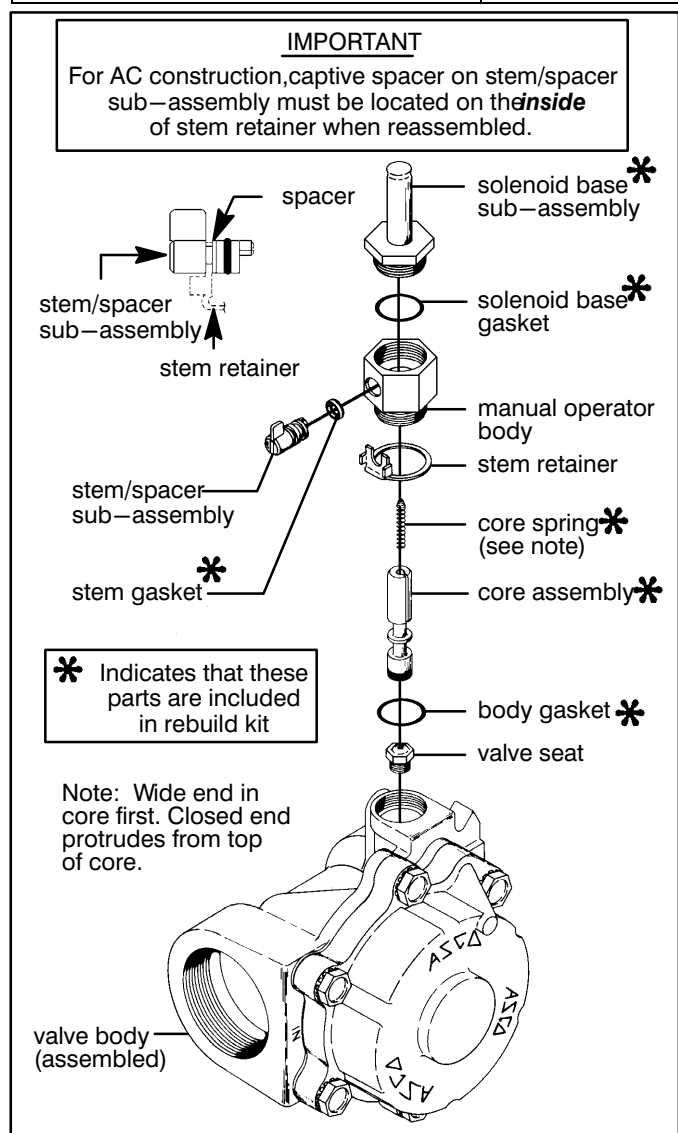

Figure 1. Manual Operator Assembly, AC Construction.
2. For AC construction refer to Figure 1 on page 3; DC construction Figure 2 on page 3.